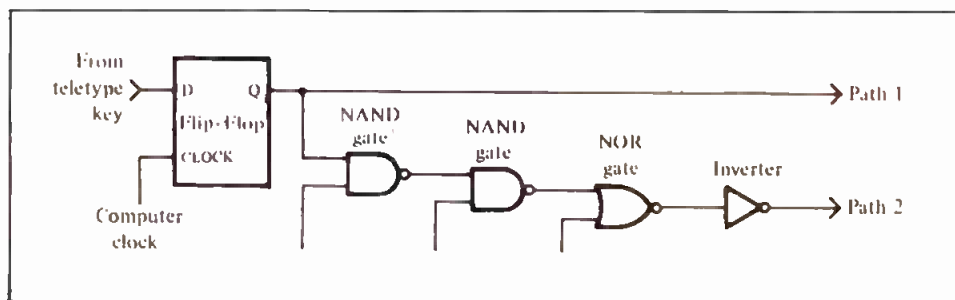

Figure 1. Path 1 and Path 2 would have different values when the D-input changed at a critical time.
When the design engineers analyzed their computer, they found the equivalent of the logic shown in FIGURE 1. The flip-flop's output went to many places in the machine via different paths. They had assumed that the data would reach the end of
Figure 1. Transmission loss of glass sheets of different thickness due to the mass law expression of Equation 1. Considering only mass, the transmission loss (TL) increases 6 dB with each doubling of frequency or doubling of glass thickness.